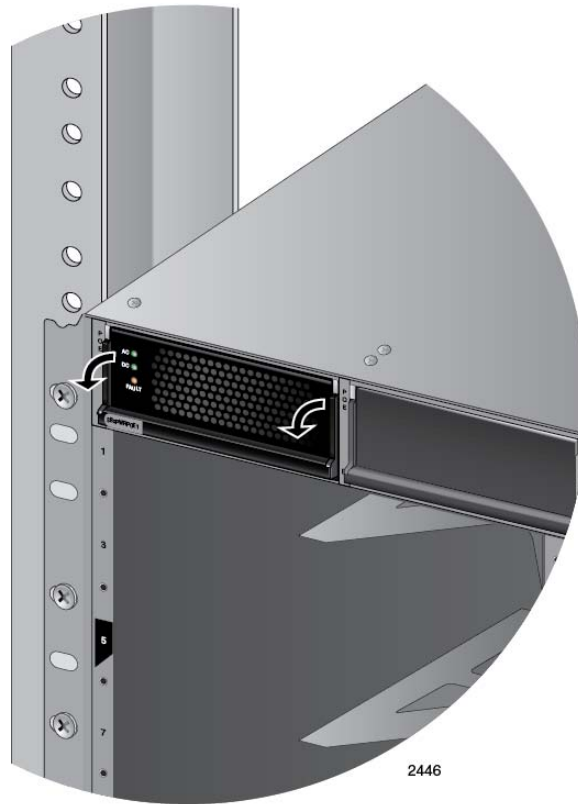

Figure 66. Locking the Handle on the AT-SBxPWRPOE1 Power Supply
6. Lower the locking handle of the power supply module to secure the module in the slot, as shown in Figure 66.